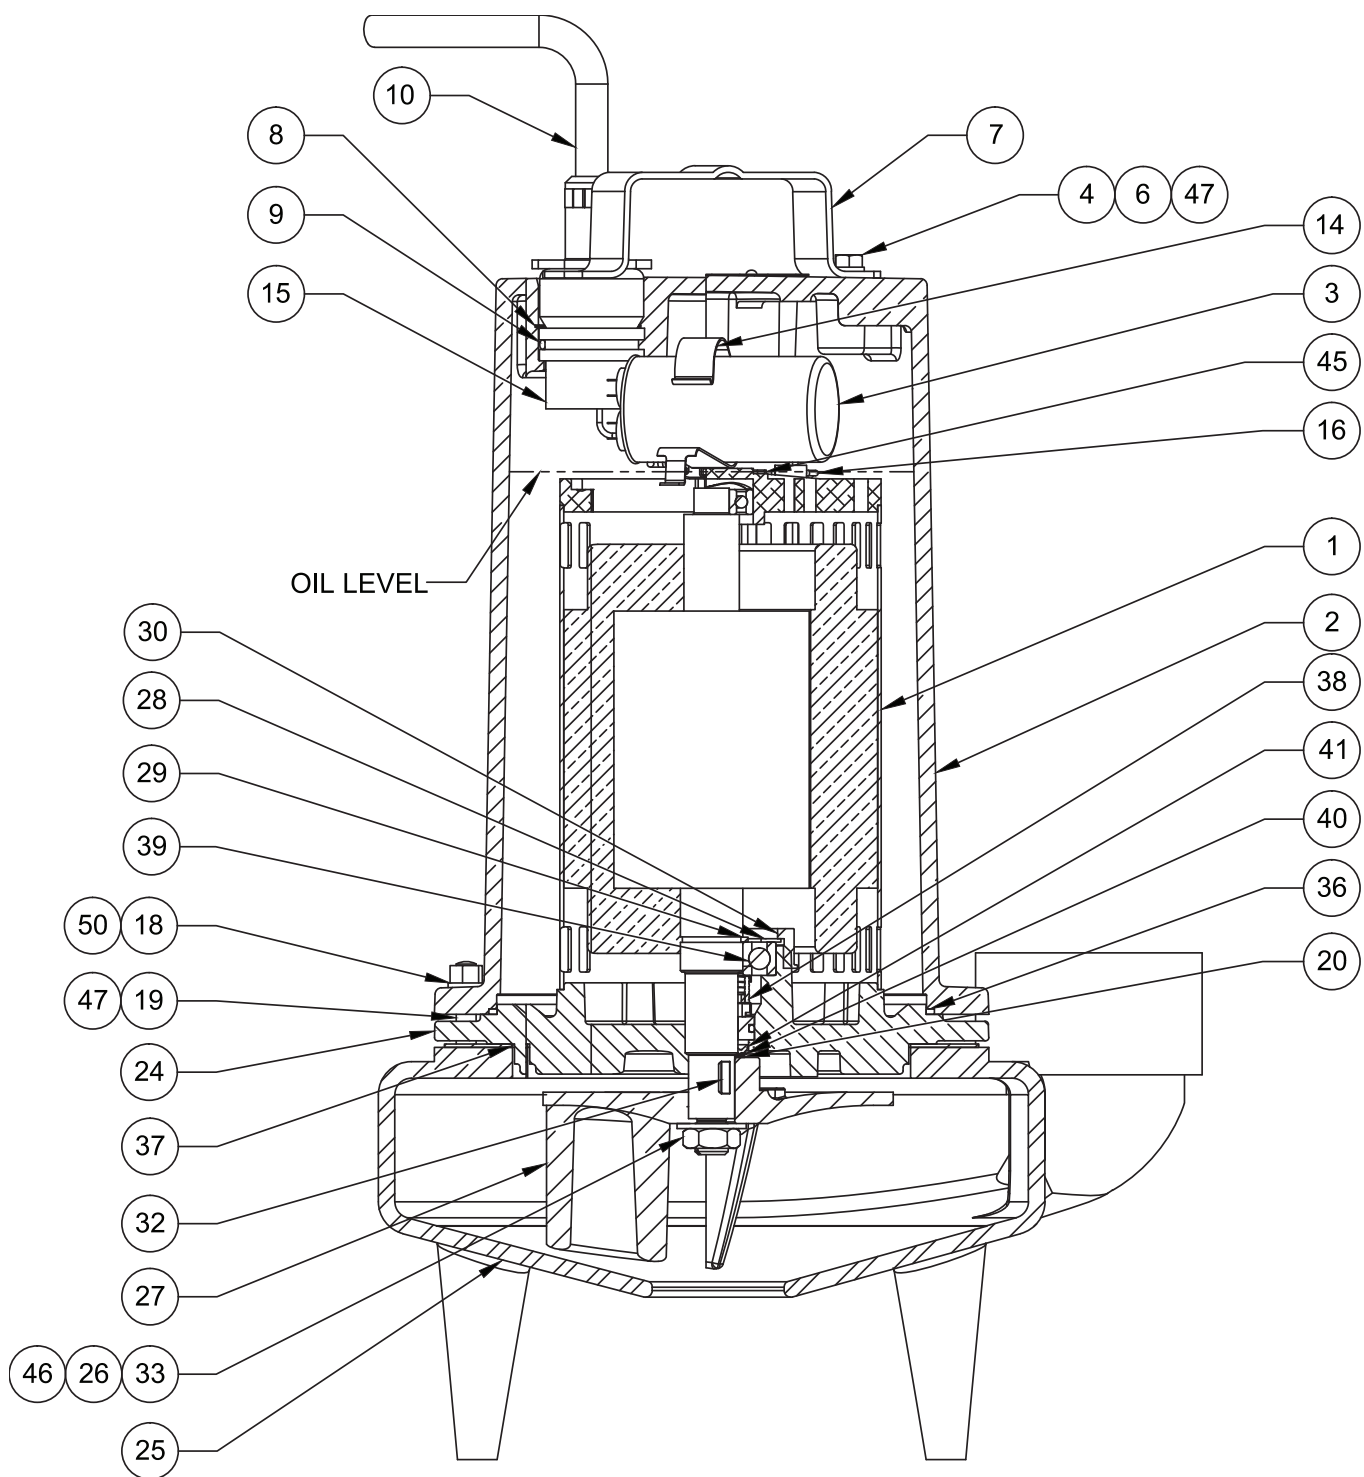

FIGURE 11
Check power cord (10), for cracks or damage and replace if required (see Figure 11). Make internal wiring connections which are independent of the terminal block as shown in (Figure 10), using connectors (11) and wire assemblies (17) as required. Do not use wire nuts. Slip motor leads and ground wire through fiberglass sleeve. Lower motor housing (2) down onto seal plate (24) while aligning holes and stringing motor leads through the cord entry bore. (Slipping cords inside a 1 ft. length of .5" conduit makes this easier). Place socket head cap screws (35) through seal plate (24) into motor housing (2) and torque to 75 in-lbs.